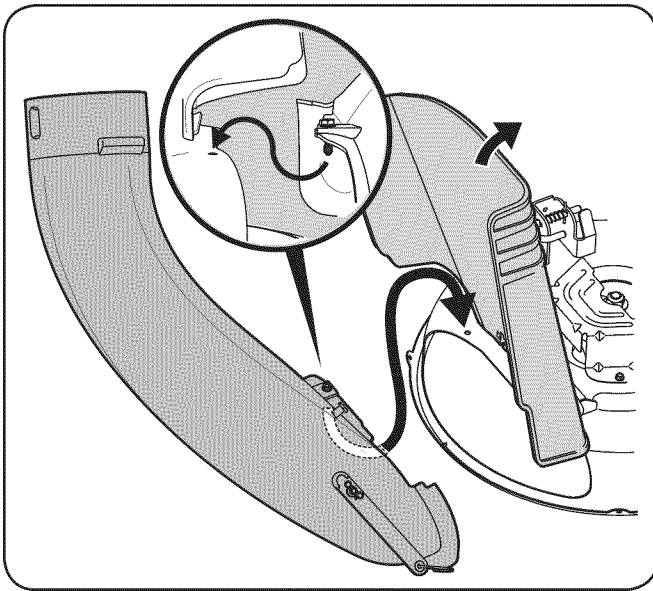
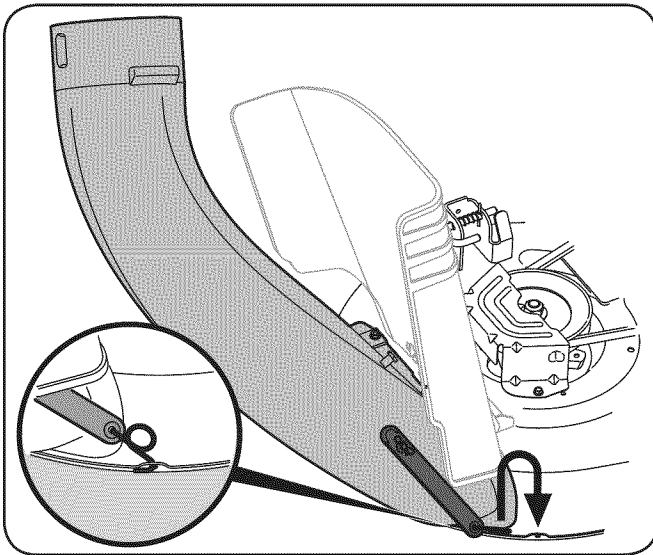

Figure 4-20
Figure 4-21
14. With the tractor's discharge chute raised up and held open, install the chute elbow over the chute opening by placing the deck mounting pin in the hole provided, as seen in Fig. 4-20, then secure the elbow to the deck by hooking the retainer strap torsion spring hook into the hole provided in the flange on the front-side of the cutting deck as seen in Fig. 4-21.